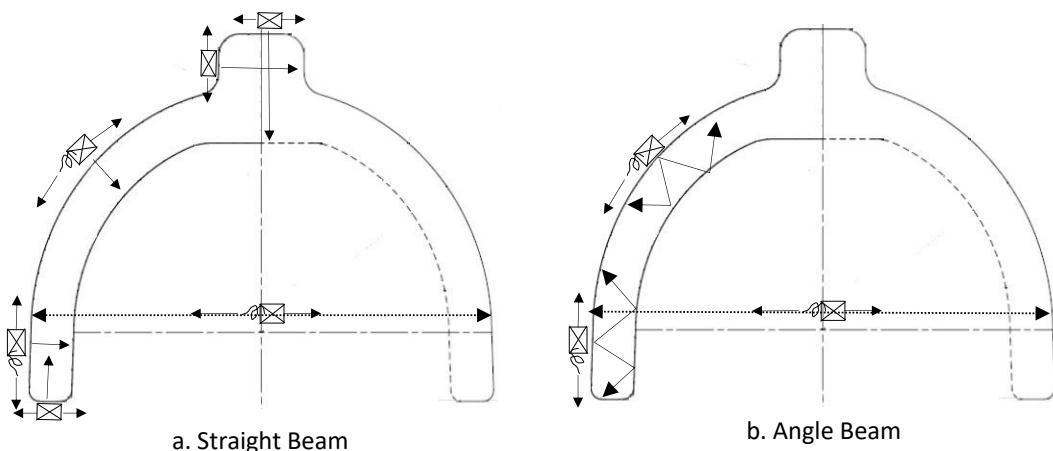

Figure 1. Scan Plan for Forged Dome
- (1) Scan Plan for Bar Stock and Solid Rounds--- Shall be performed as described in Figure 1.
- (2) Scanning must be done in two perpendicular directions, with a single, dual element or angle search unit.
- (3) Scan Plan for Forged Dome-Straight Beam scan from all accessible contact surfaces.
- (4) The scanning speed shall be equal to or less than the speed used during calibration.